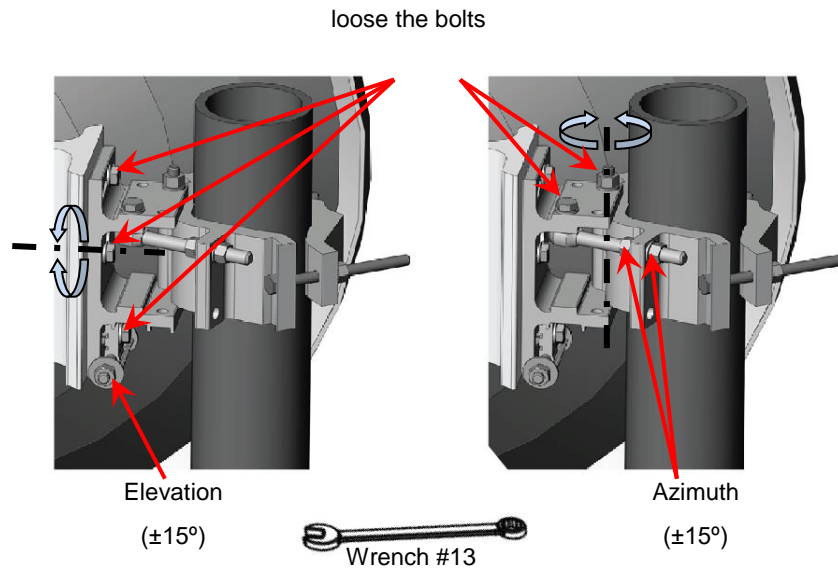

Fig. 21. Elevation and azimuth alignment mechanism
- Get yourself familiar with antenna alignment mechanism to change the orientation of the antenna axis within $\pm 15^\circ$ in azimuth and elevation (Fig. 21).
- Rotate the adjustment mechanism bolts/nuts shown at Fig. 21 and implement antenna beam scan to detect corners reflector as signal peak on the laptop screen.